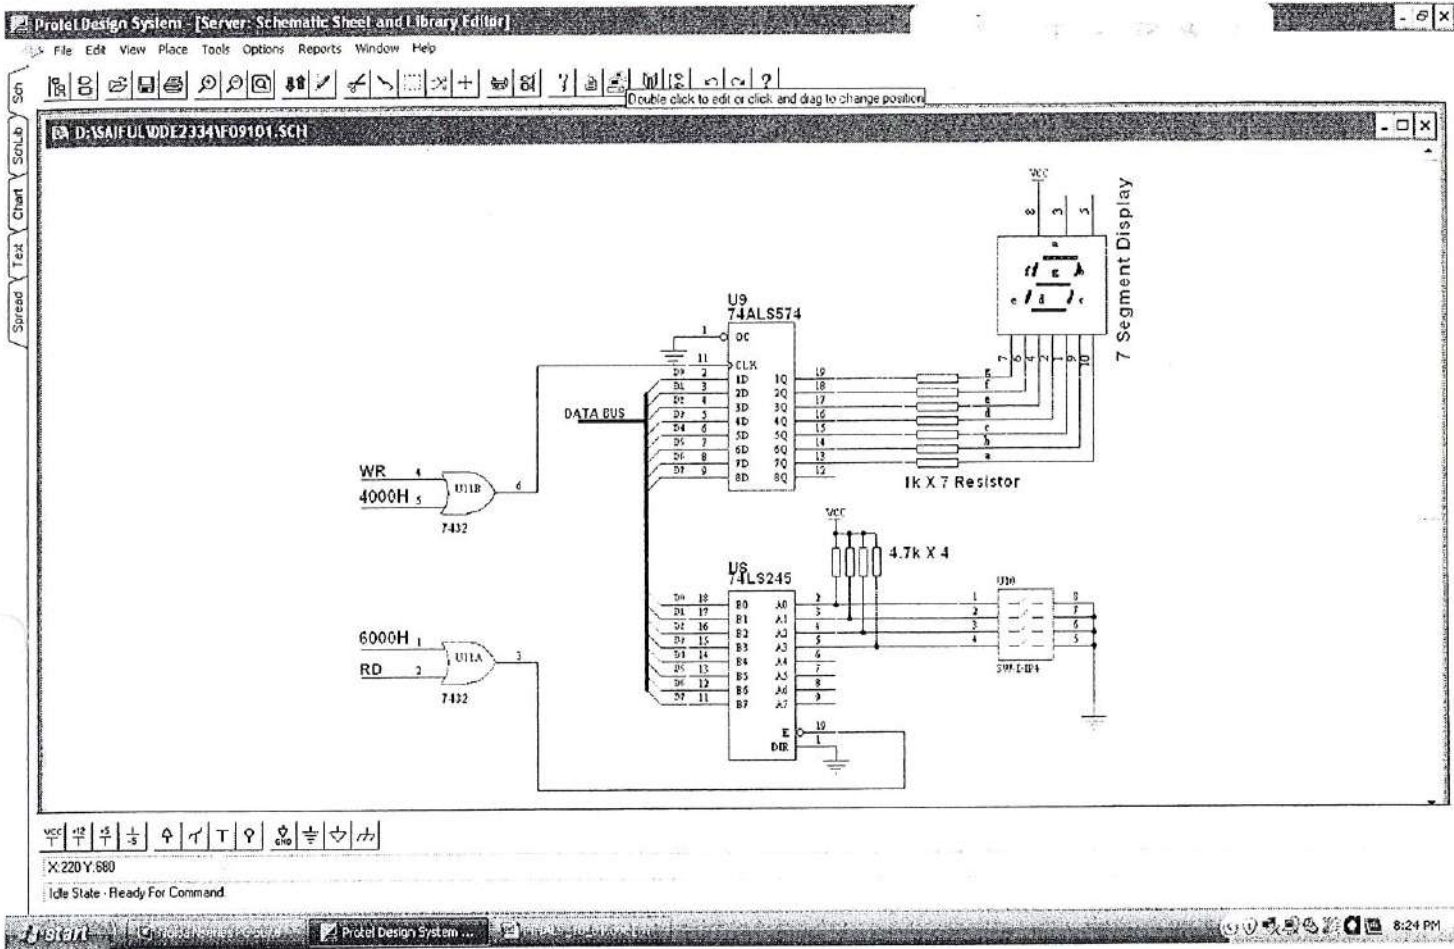

Figure 1/Rajah 1
- Q20. A 4-bit DIP switch, U10, and a common-anode 7-segment display are connected to an 8051 microprocessor system as shown in Figure 1. Write a program that continually reads a 4-bit code from the DIP switch, U10, and updates the segments to display the appropriate hexadecimal character. For example, if the code 0101B is read, the hexadecimal character "5" should appear.